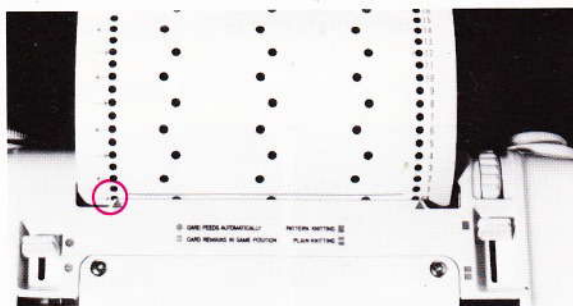

Fig. 144
- Push the lace carriage from right to left according to the arrow ← printed on the card (fig. 144). The stitches from the selected needles are transferred onto the adjacent needle at the left. Push the lace carriage back from left to right leaving it on the right-hand rail out of the way.